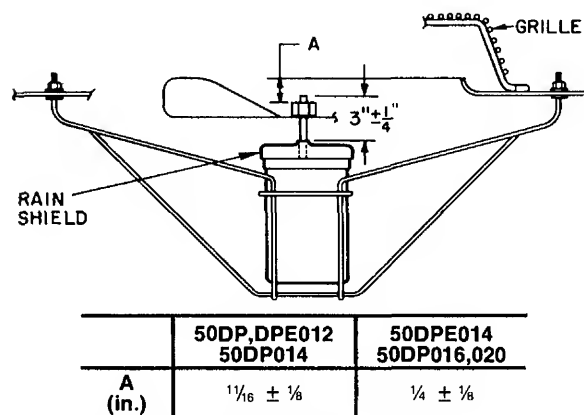

Fig. 22 — Outdoor Air Fan Adjustment
**Outdoor Air Fan Adjustment** (Fig. 22) — Shut off unit power supply. Remove fan top grille assembly and loosen fan hub screws. Adjust fan height on unit using a straight edge placed across the fan orifice. Tighten setscrews and replace rubber hubcap to prevent hub from rusting to motorshaft. Fill hub recess with permagum if rubber hubcap is missing.